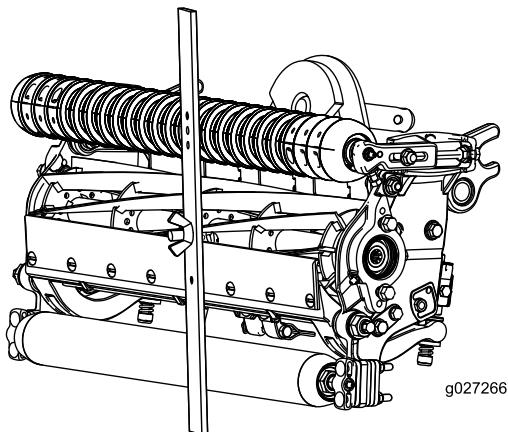

Figure 17
4. Hook the screw head on cutting edge of bedknife and rest rear end of bar on rear roller (Figure 17).
5. Rotate the adjusting screw until the front roller contacts the gauge bar (Figure 17). Adjust both ends of roller until entire roller is parallel to the bedknife.